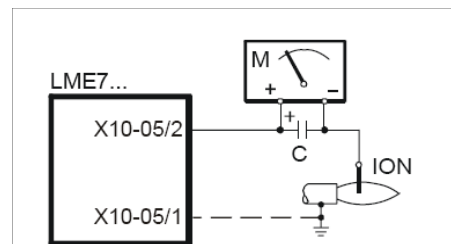

Fig. 4: Detection by electrode
- Removal, examination and cleaning of the combustion head (Fig. 4 and the following).
2. Slide VD forward up to the stop, fig. 4.